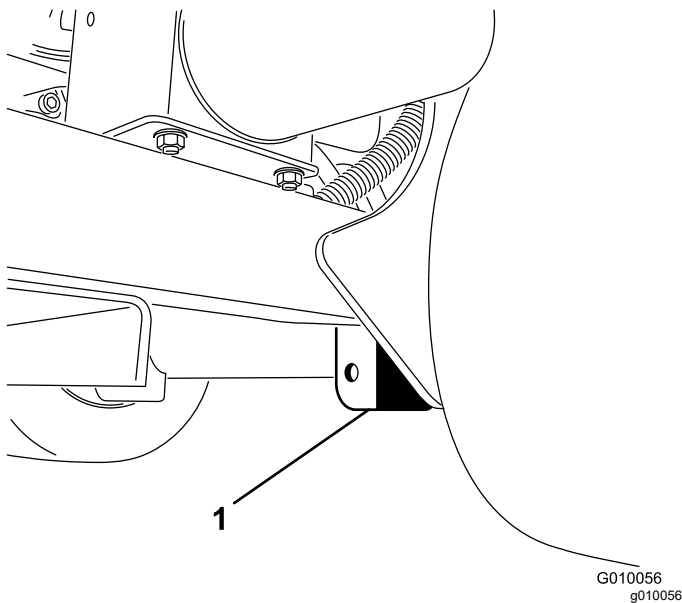

Figure 37
3. Place the jack securely under the frame plate just inside of the rear wheel (Figure 37).